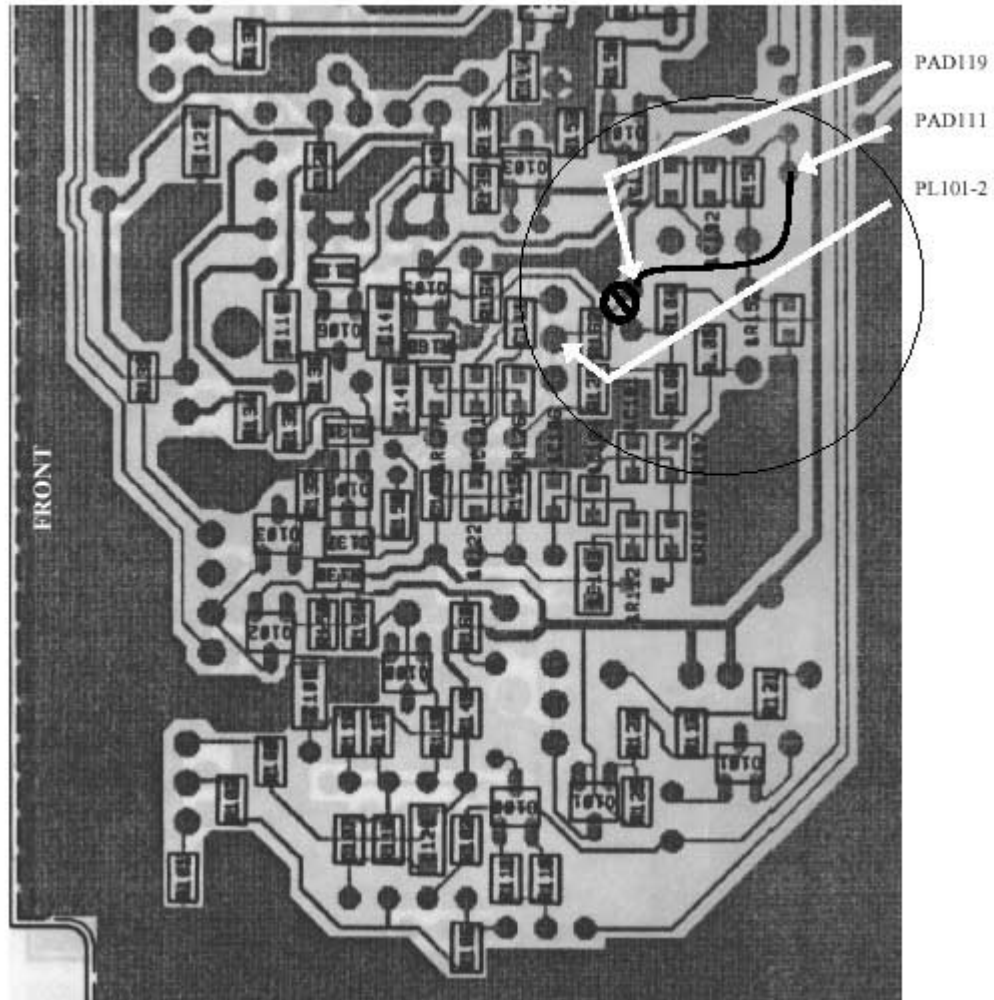

Figure 3 - T885 Receiver PCB. Bottom side (opposite handle side). 3/3
7. On the bottom side, cut PCB trace at the junction of PAD 119 and C141/R131/C112/IC101pin1/PL101. Refer to Figure 3, page 6.
8. Solder a 0.75" wire (26 AWG) from PAD111 and PAD119 (called Audio1). Refer to Figure 3.(Note 1)
9. On the handle side, full-channel RX only (T885-20), remove the IF filter &XF302 (CFW455E) and replace it with a CFWS455DY (Murata). Refer to Figure 3, page 6. (Note 2)